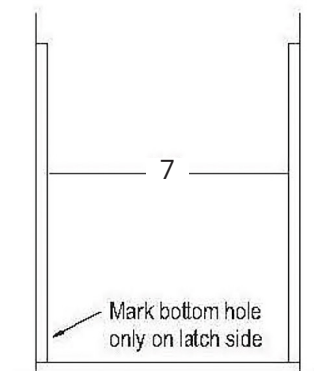

Figure 1
1. Hold wall channels (7) in a plumb position and mark hole locations on the hinge side and bottom hole only on the latch side (See Figure 1). Drill holes in wall (using 3/16" carbide drill for tile walls). Insert wall anchors (8) into drilled holes.